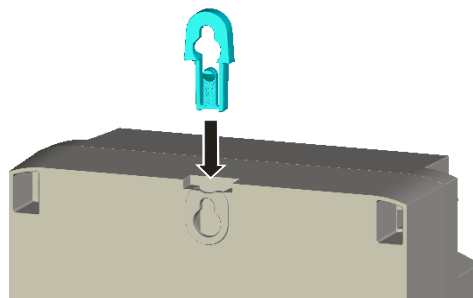

Fig. 4.2 Meter suspension eyelet
7. For open meter mounting insert the meter suspension eyelet – this is supplied in the terminal cover – into the corresponding opening at the rear side of the meter until the suspension eyelet engages (see Fig. 4.2).